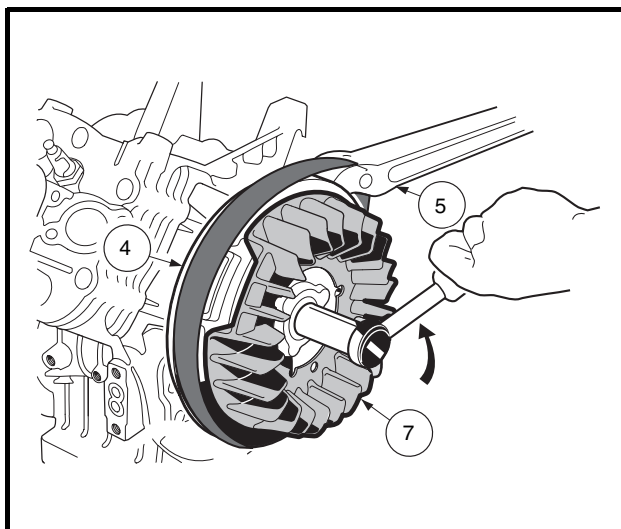

Figure 15-9 Flywheel Nut
3. Hold the flywheel (4), not the fan (7), with a strap wrench (5) and, using a 25 mm socket, remove the flywheel nut (and flat washer) by turning it counterclockwise (**Figure 15-9, Page 15-7**). See following **CAUTION**.